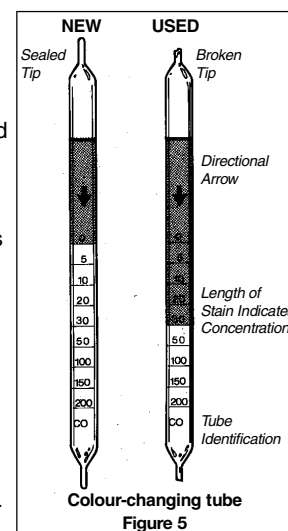

Figure 5
1) The first is the colour-changing tube type. A sample of air is drawn through a glass tube filled with crystals that change colour if certain gases or vapours are present (Figure 5). These devices are the simplest, cheapest, and most versatile way of checking for toxic gases and vapours. However, they are very specific and will react only to certain gases or vapours. Therefore you must first know what gas or vapour is likely to be present in